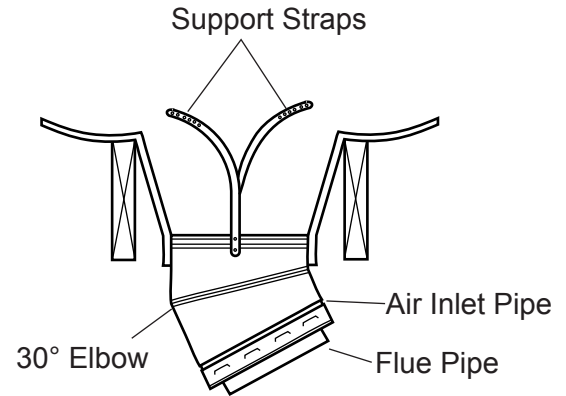

Figure 16 - Elbow Supports
2. Do not use elbows in any combination that inclines the chimney more than 30° from vertical. See Figure 16.